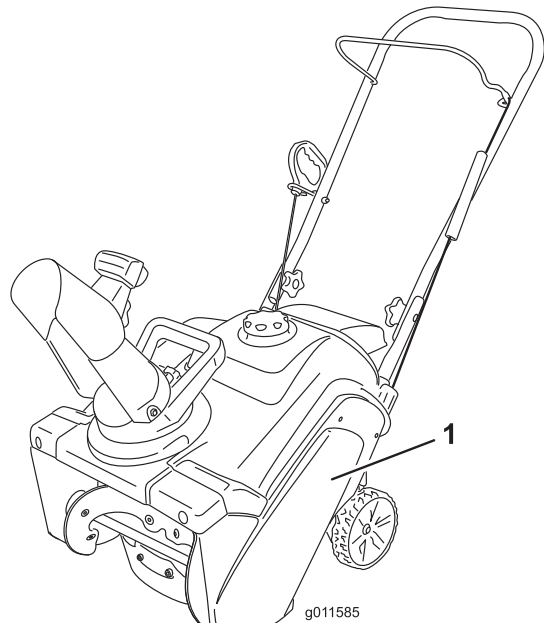

Figure 30
1. Remove the 4 bolts that hold the drive-belt cover (Figure 30) in place.